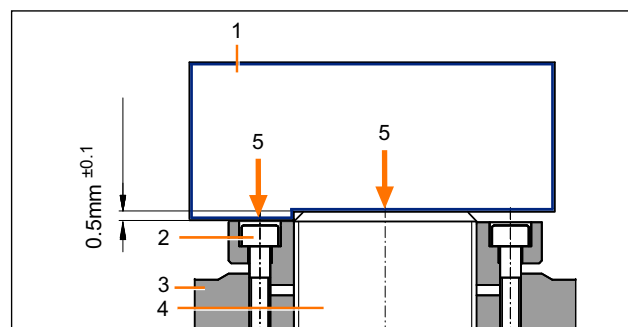

Fig. 2: Adjustment aid, seated
- i** The adjustment aid is included to check the correct setting. The adjusting nut must be adjusted in such a way that the adjustment aid rests on the rod end as well as the adjusting nut without a gap, see Fig. 2.